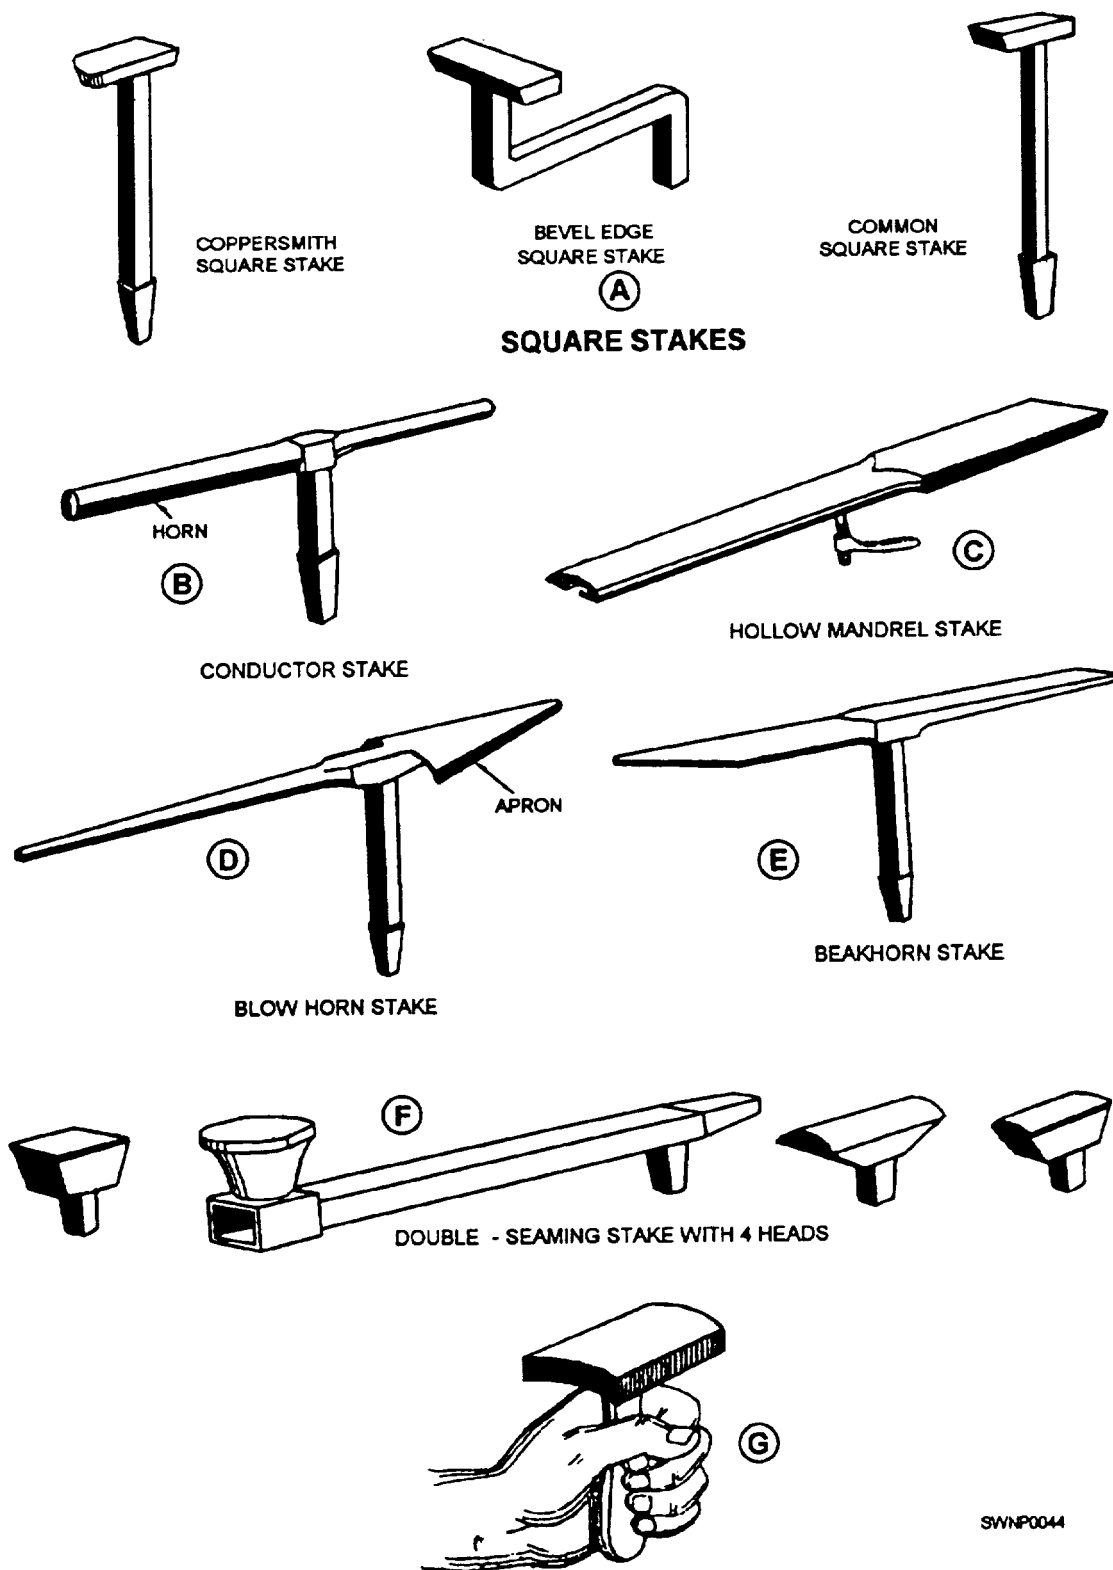

Figure 2-27.—Metal stakes
METAL STAKES allow the sheet-metal craftsman to make an assortment of bends by hand. Stakes come in a variety of shapes and sizes. The work is done on the heads or the horns of the stakes. They are machined, polished, and, in some cases, hardened. Stakes are used for finishing many types of work; therefore, they should NOT be used to back up work when using a chisel. The following is an assortment of the most common stakes that are used within the NCF and Public Works Departments (fig. 2-27):
1. SQUARE STAKES (fig. 2-27, view A) have square-shaped heads and are used for general work. Three types are used: the coppersmith square stake with one end rounded, the bevel edge square stake that is offset, and the common square stake. Some of the edges are beveled and this allows them to be used for a greater variety of jobs.
2. The CONDUCTOR STAKE (fig. 2-27, view B) has cylindrical horns of different diameters and is used when forming, seaming, and riveting pieces and parts of pipes.
3. The HOLLOW MANDREL STAKE (fig. 2-27, view C) has a slot in which a bolt slides allowing it to be clamped firmly to a bench. Either the rounded or the flat end can be used for forming, seaming, or riveting. There are two sizes available with an overall length of either 40 or 60 inches.
4. The BLOW HORN STAKE (fig. 2-27, view D) has two horns of different tapers. The apron end is used for shaping blunt tapers and the slender-tapered end is used for slightly tapered jobs.
5. The BEAKHORN STAKE (fig. 2-27, view E) is a general-purpose stake. The stake has a round-tapered horn on one end and a square-tapered horn on the other end. This stake is used for riveting and shaping round or square work.
6. The DOUBLE-SEAMING STAKE WITH FOUR INTERCHANGEABLE HEADS (fig. 2-27, view F) has two shanks and either one can be installed
7. The HAND DOLLY (fig. 2-27, view G) is a portable anvil with a handle that is used for backing up rivet heads, double seams, and straightening.